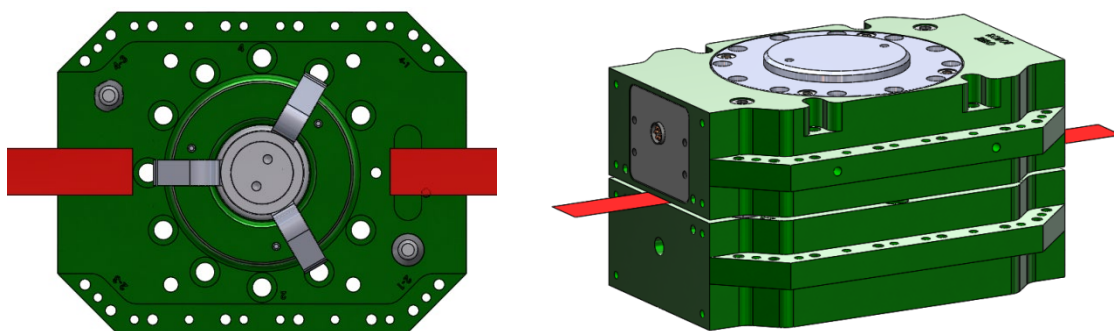

Figure 8.1.3-3. Shim Test of the Cam Locking Mechanism
10. Repeat Steps 6 through 9 for each location shown in Figure 8.1.3-3.